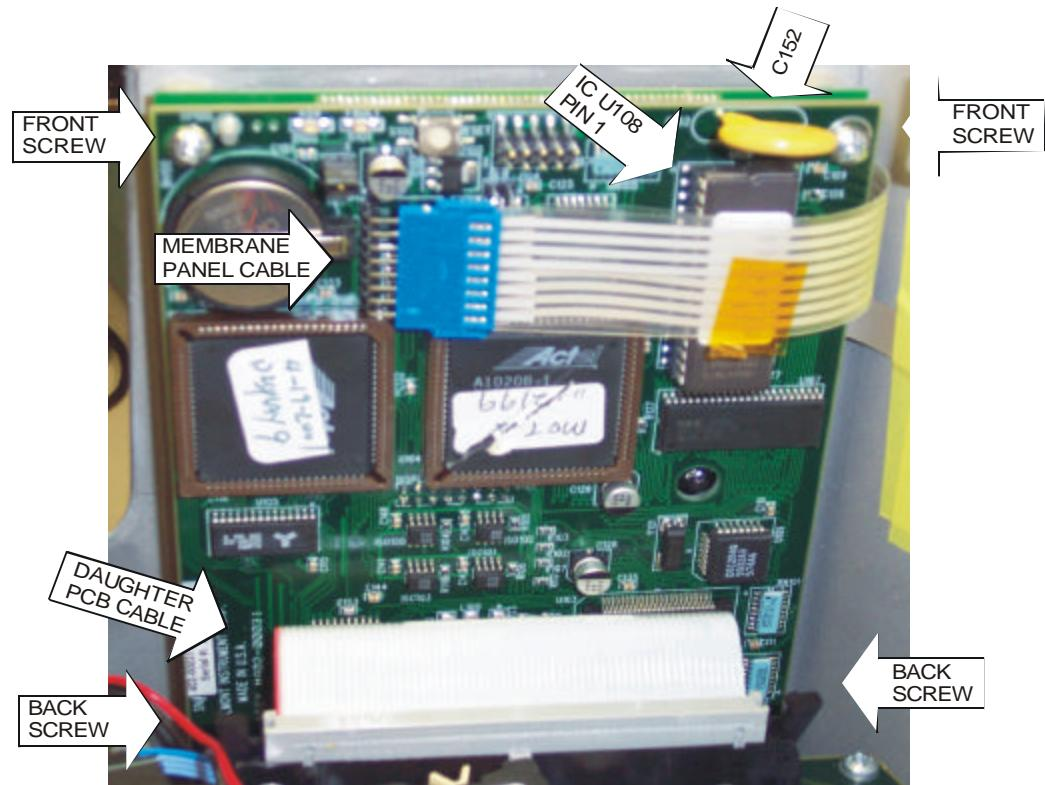

Figure 3: CPU Board
2. Position C152 on CPU PCB and solder in place. Figure 3.
4. Insert 2X pan head Phillips screws through the back holes in CPU PCB, through 2X standoffs & Display. Figure 3.
6. Insert 2X pan head Phillips screws through the front holes in CPU PCB, through 2X standoffs & Display. Figure 3.